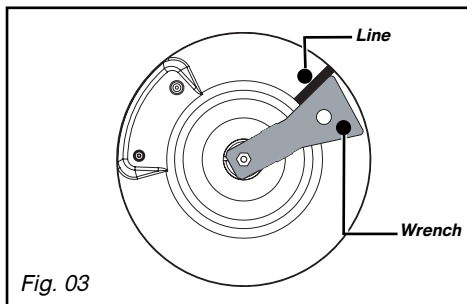

Fig. 03
110 standard) with a 5-year guarantee may be used. In this case an adaptor must be used and a sealing washer must be inserted between the adaptor and the elbow joint (Fig. 03).
- Turn the wrench clockwise until the line appears on the opposite side of the key (Fig. 03).